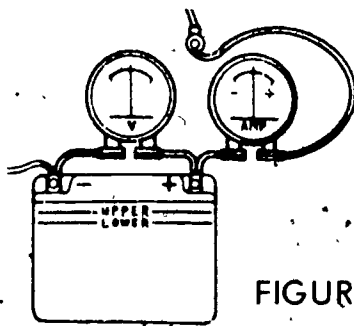

FIGURE 1
- B. Connect the DC ammeter in series between the disconnected rectifier lead and the battery terminal (Figure 1)